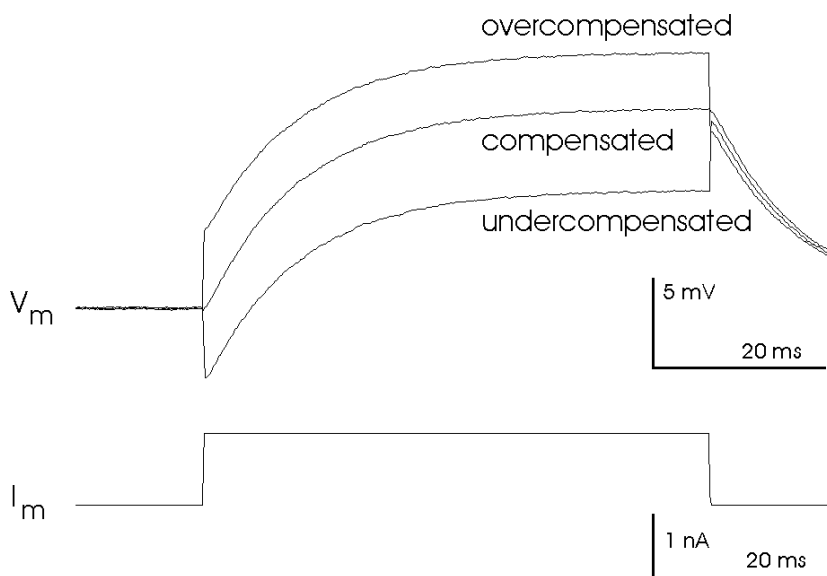

Figure 12: Adjustment of the bridge balance after penetrating a cell
- o If necessary readjust the BRIDGE BALANCE as shown in Figure 12.